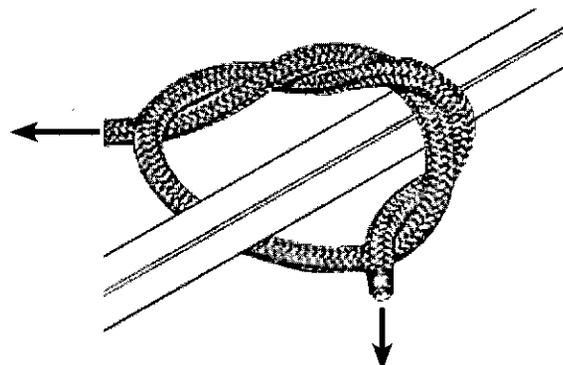

Figure 8
12. a. Tie one end of the provided 9' rope to the link welded onto the stabilizer bar, just in front of the tree hugger. Be sure your double knots are secure. **SEE FIGURE 8.**
b. Tie one end of each of the provided 15' ropes to the square tube of tree blade frame, just in front of the tree blades. Be sure your double knots are secure. **SEE FIGURE 8.**